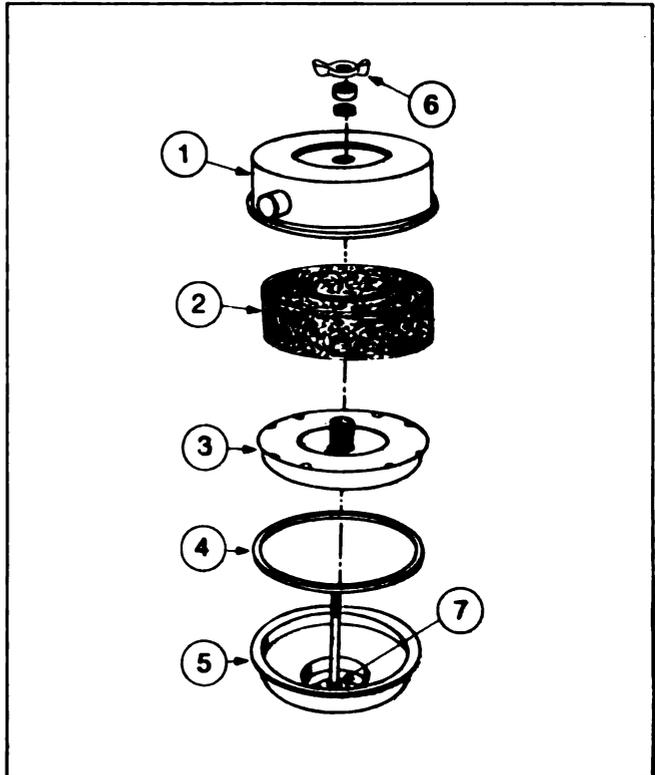

Fig. 2-24. (V51909). Crankcase breather — mesh element with vapor barrier
1. Remove the wing nut (6, Fig. 2-24), flatwasher and rubber washer securing the cover (1), to the breather body (5).
2. Lift off the cover and life out the breather element (2), vapor element (3), and gasket (4).
5. Install a cleaned or new breather element (2, Fig. 2-24) and cleaned vapor element (3) to the breather body (5).
6. Install the rubber gasket (4) in the cover (1); position the cover assembly to the body (5).
7. Install the rubber washer, flatwasher and wing nut (6); tighten securely.